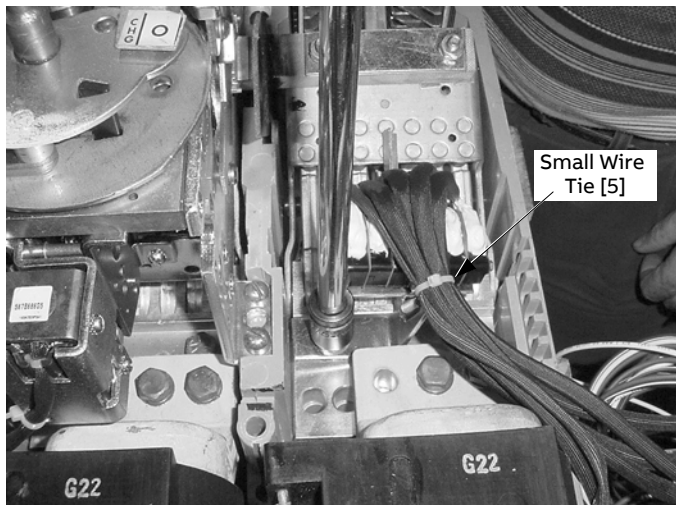

Figure 11. New auxiliary switch [4] installed in a 2500–4000 A breaker.
- 2500–4000 A breaker: Place the new switch over the C phase contact assembly and secure with the bolt, lock washer, and flat washer removed in the previous step, as shown in Figure 11. Tighten the bolt to 180–250 in.-lb. In both cases, use small wire ties [5] to dress the wire bundles.